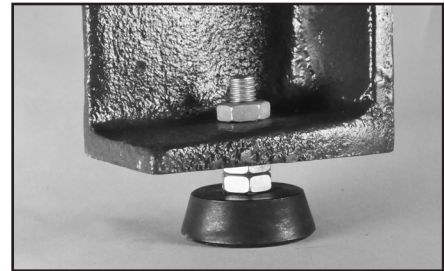

FIG. 1
2. The adjustable Feet (#A28) have three hex nuts (#A27) pre-assembled on the threaded shafts. Remove the top nut and leave the bottom two nuts on the shaft. These two nuts will be used to adjust the level of the lathe later on. FIG. 1.